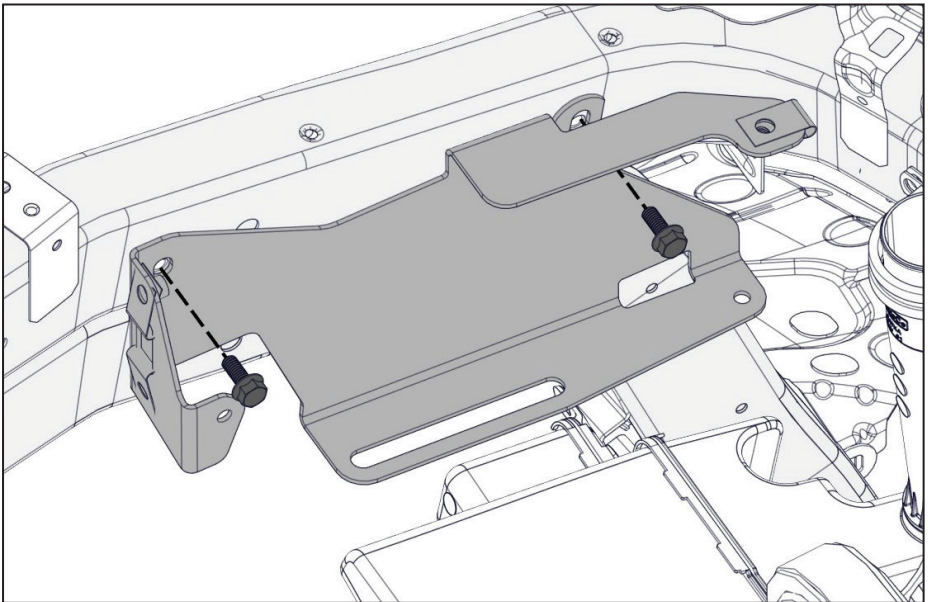

Figure 83 — Install the degas relocation bracket
- ☐ Using the supplied fasteners, mount the CAC relocation bracket (Figure 83).